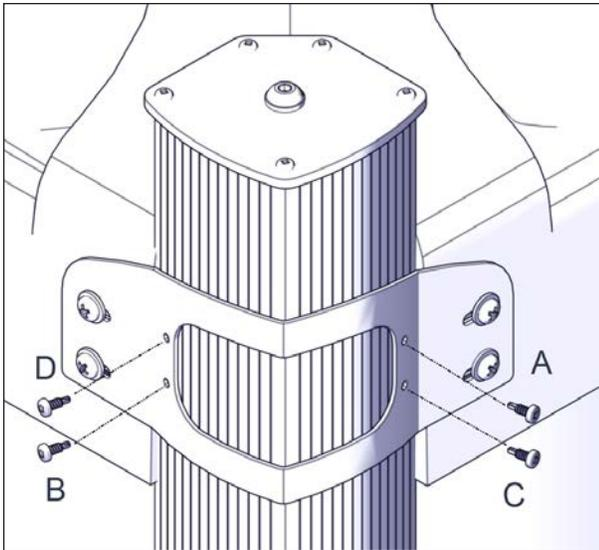

FIGURE 66: INSTALLATION PATTERN FOR CORNER BRACKET SCREWS ATTACHED TO THE SLEEVE
- Install #8 x 1/2" self-tapping screws (4) to fasten the corner bracket to the sleeve and follow the pattern A to D shown in Figure 66.